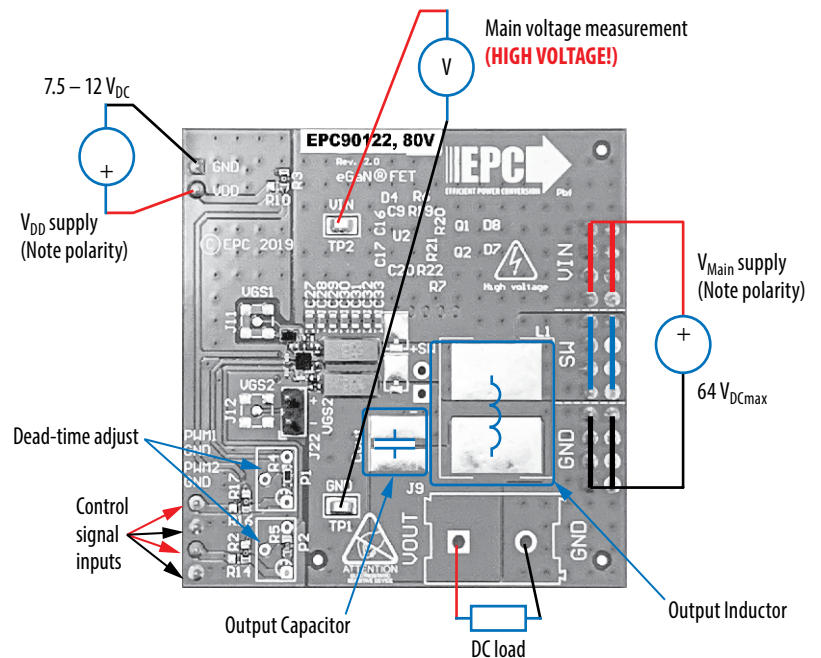
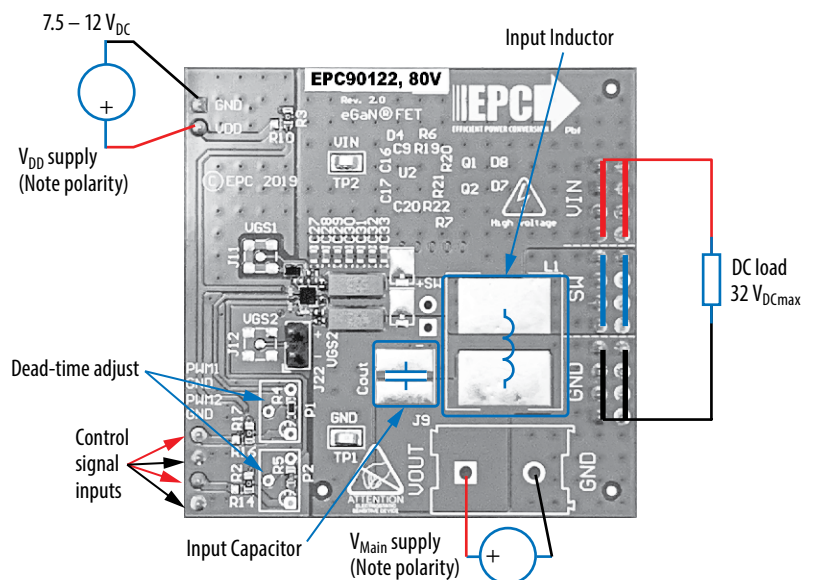

Figure 2: Buck configuration
Figure 3: Boost configuration
The half bridge development board EPC90122 is easy to set up as buck or boost converter. Refer to figure 2 for buck converter configuration and measurement setup, and figure 3 for boost converter setup, and follow the procedure below:
2. With power off, connect the switch node (SW) of the half bridge to your circuit as required (half bridge configuration). Or use the provided pads for inductor (L_1) and output capacitors (C_{out}), as shown in figure 2 with a DC load connected across V_{OUT} and GND.
1. The inductor (L_1) and input capacitors (labeled as C_{out}) can either be soldered onto the board, as shown in figure 3, or provided off board. Anti-parallel diodes can also be installed using the additional pads on the right side of the EPC2206 FETs.